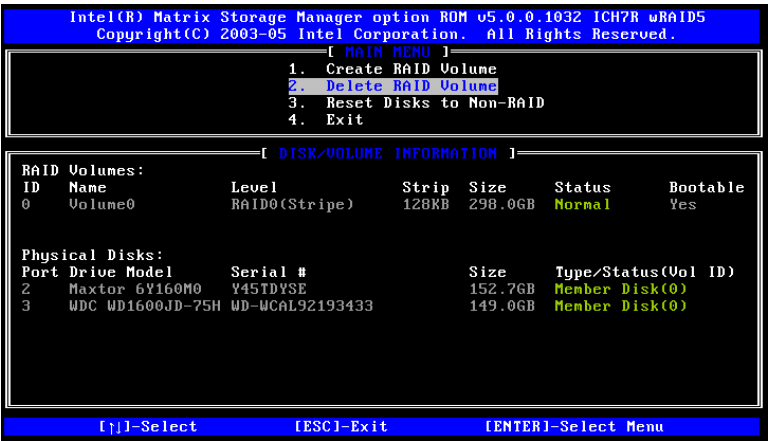

Figure E-8: Delete RAID Volume Menu
Step 1: Select “Delete RAID Volume.” Use the arrow keys to highlight **Delete RAID Volume** and press **ENTER**. See **Figure E-8**.